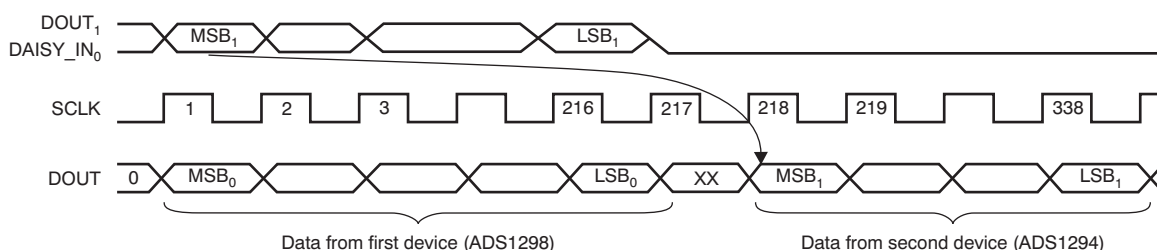

Figure 57. Daisy-Chain Timing for Figure 56b
Daisy-chain mode is enabled by setting the $\overline{\text{DAISY_EN}}$ bit in the CONFIG1 register. Figure 56b shows the daisy-chain configuration. In this mode SCLK, DIN, and $\overline{\text{CS}}$ are shared across multiple devices. The DOUT of one device is hooked up to the DAISY_IN of the other device, thereby creating a chain. One extra SCLK must be issued between each data set. Also, when using daisy-chain mode, the multiple readback feature is not available. Short the DAISY_IN pin to digital ground if not used. Figure 2 describes the required timing for the ADS1298 shown in Figure 57. Data from the ADS1298 appear first on DOUT, followed by a *don't care* bit, and finally by the status and data words from the ADS1294.
1. One extra SCLK must be issued between each data set (See Figure 57).